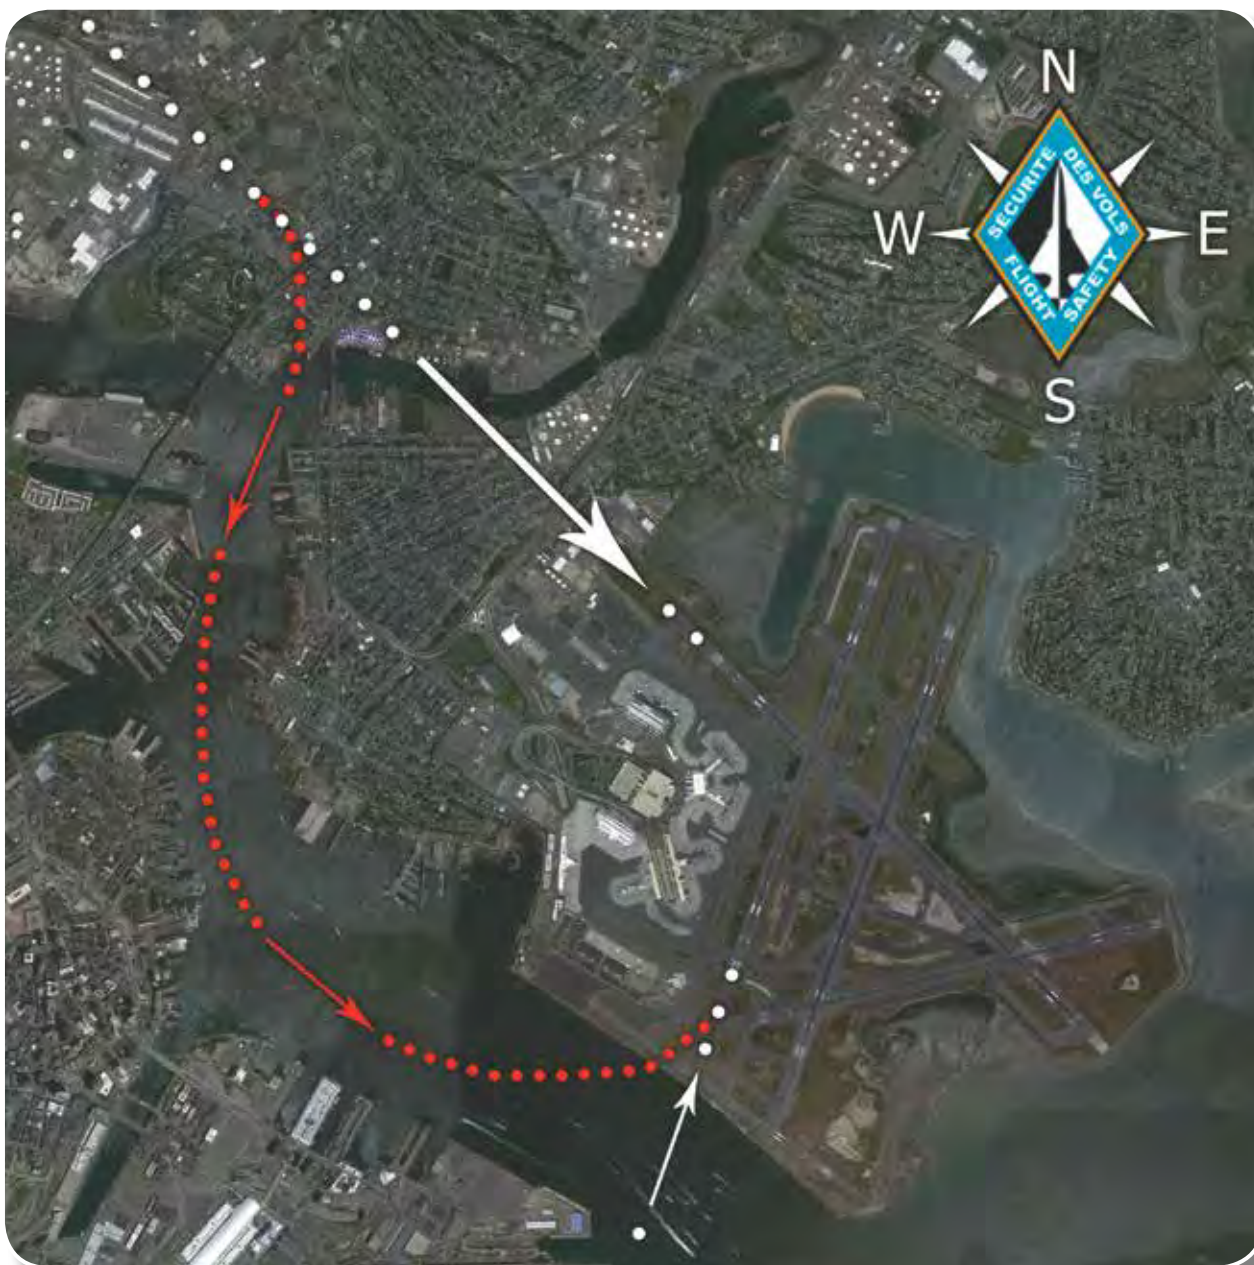

Figure 1
(ILS 15R) intersecting the main landing and departing stream at midfield. Above minimums, one levels off while breaking sharply right, then navigates visually (VA) along a harbor waterway. At least 120 degrees of left turn is required to align with the landing runway (04L), which is closely spaced with parallel traffic touching down from the primary approach on 04R. Vertical guidance becomes available from PAPI only once on centerline. (see Figure 1)